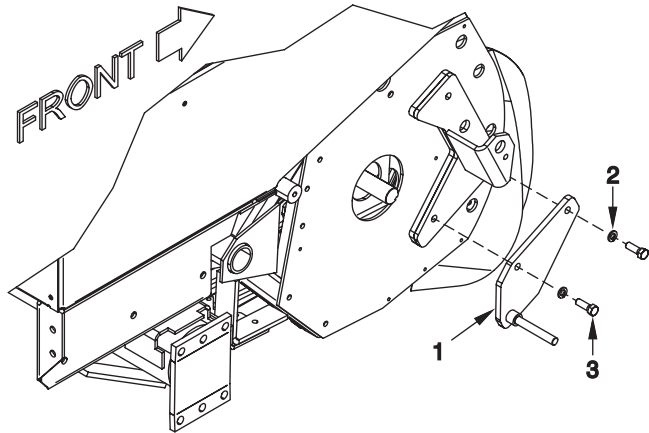

Figure 2-3-6 - Pickup Depth Wheel Bracket
A. Place (1) Item 1 Bracket on the pickup as shown in Figure 2-3-6. Secure with (2) Item 2 Lock Washers and (2) Item 3 Bolts as shown. Torque all nuts and bolts as per torque chart on page 2-3-1.